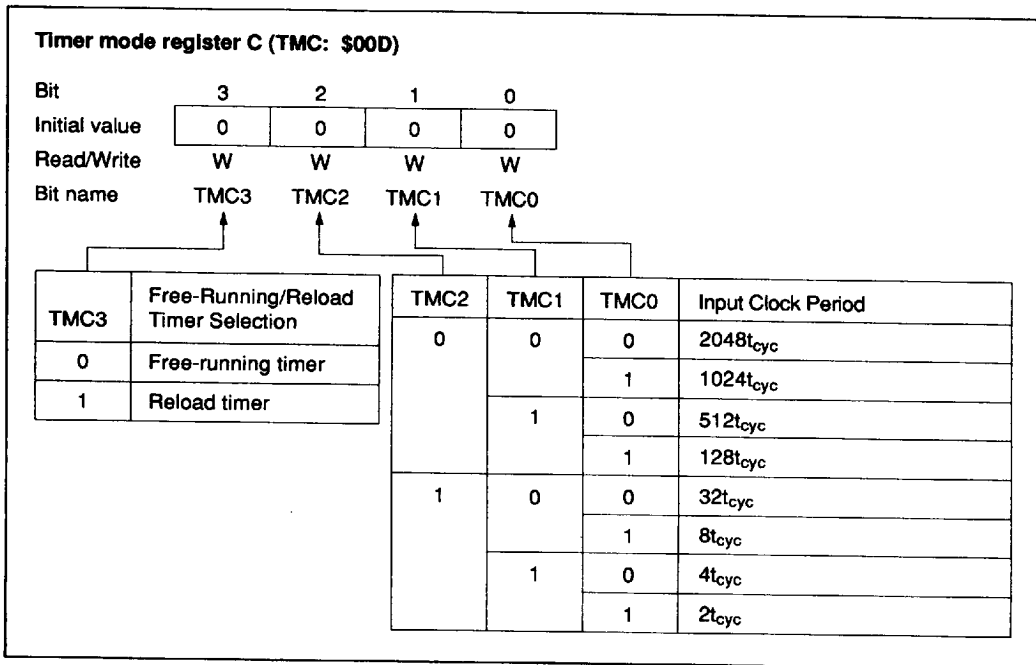

Figure 36 Timer Mode Register C (TMC)
- Timer mode register C (TMC: \$00D): Four-bit write-only register that selects the free-running/reload timer, input clock, and prescaler division ratio, as shown in figure 36. It is reset to \$0 by an MCU reset.